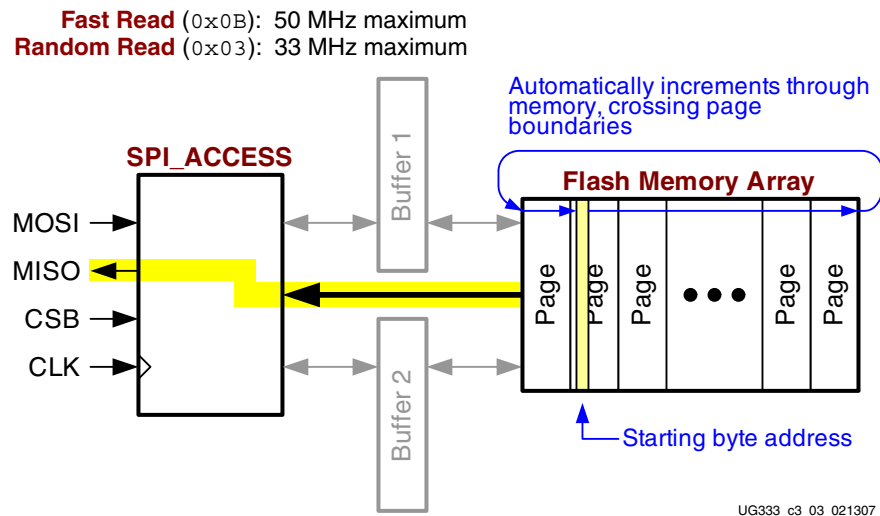

Figure 3-1: Fast Read and Random Read Commands
The Fast Read command sequentially reads a continuous stream of data directly from Flash memory bypassing the SRAM page buffers, as shown in Figure 3-1. The command specifies an initial starting byte address in the ISF memory. The ISF memory incorporates an internal address pointer that automatically increments on every clock cycle, allowing one continuous read operation without requiring additional address sequences.
- ◆ The starting byte location can be anywhere in the ISF memory array, located on any page, as shown in Figure 3-1.
- ◆ While CSB is Low, new data appears on the MISO output on every subsequent falling CLK edge. The ISF memory automatically increments the implied address counter through contiguous memory locations, as highlighted in Figure 3-1, regardless of the address mode.
Upon reaching the end of a memory page, the ISF memory continues reading at the beginning of the next page, as shown in Figure 3-1. There is no added delay when crossing a page boundary. After reading the last bit in the memory array, the ISF continues reading but returns to the beginning of the first page of memory. Again, there is no added delay when wrapping around from the end of the array to the beginning of the array. A Low-to-High transition on CSB terminates the read operation and the MISO output pin returns High.
The Random Read command sequentially reads a continuous stream of data directly from Flash memory bypassing the SRAM page buffers, as shown in Figure 3-1. The command specifies an initial starting byte address in the ISF memory. The ISF memory incorporates an internal address pointer that automatically increments on every clock cycle, allowing one continuous read operation without requiring additional address sequences.